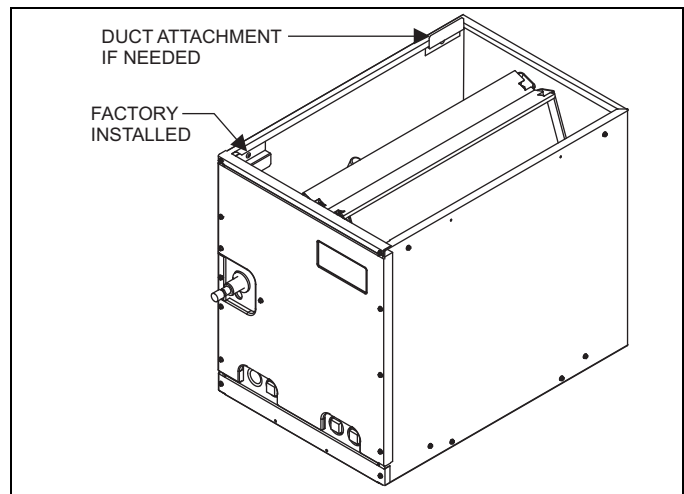

FIGURE 5: Duct Flanges - Coils FC/MC
1. Remove and reposition the coil duct flanges as shown in figure 5 if needed.